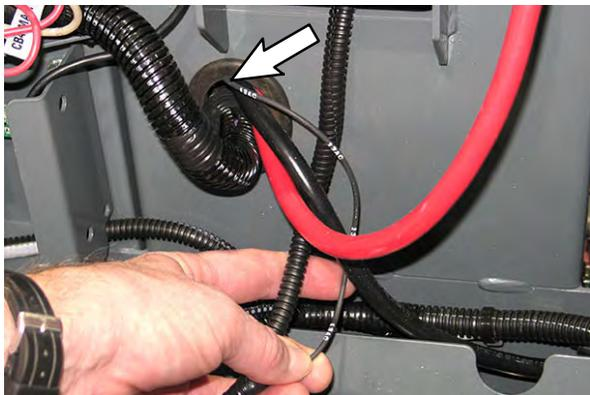

FIG. 14
5. Route the UI power electric harness (17) B- lead through the grommet in the actuator support weldment and to the main contactor B- location. (Fig. 14)